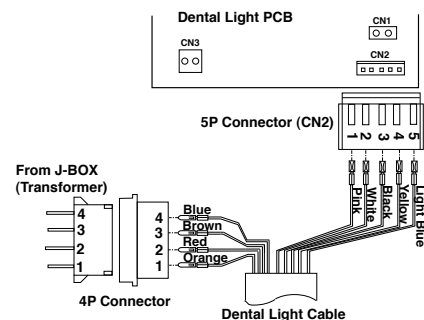

Fig.6-13 Connecting the Dental Light Connectors
F. a) Dental Light 720S (Fig.6-13)
b) Dental Light IO5000 (Fig.6-13)
Pass the light wires through the cuspidor frame and insert light cable pins into each connector in the cuspidor unit. Wire colours and connectors for connection are shown in Fig.6-13. The dental light PCB is located at the rear side of the cuspidor unit.